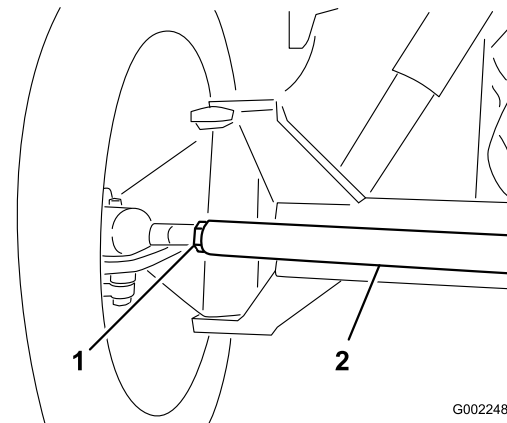

Figure 65
3. If the measurement does not fall within the specified range, loosen the jam nuts at both ends of the tie rod (Figure 65).